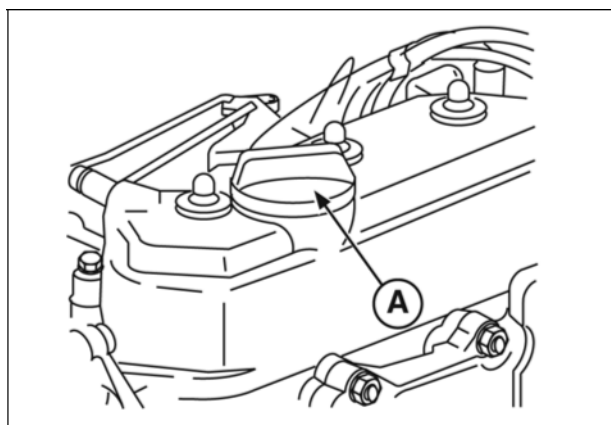

Figure 2
3. Remove oil fill cap (A, Figure 2) and refill with oil of recommended grade and viscosity.